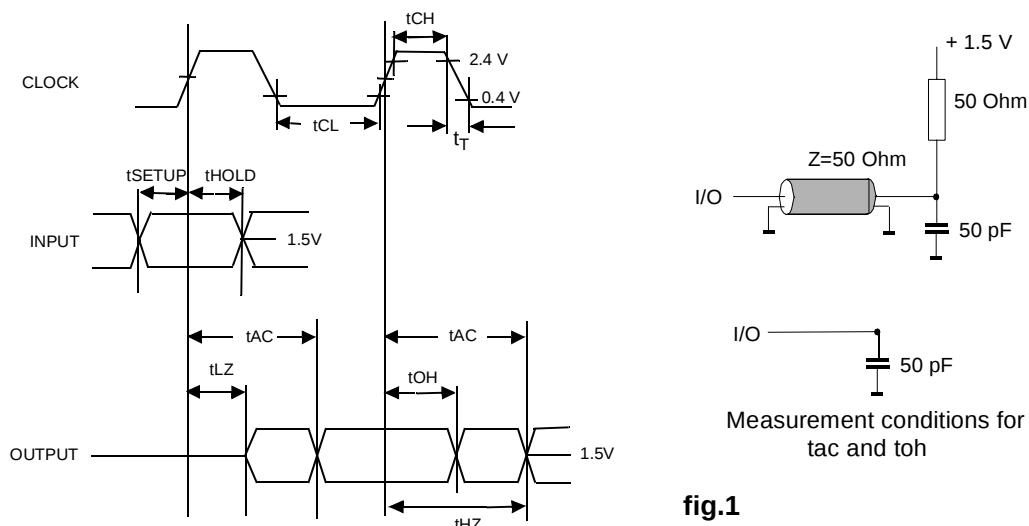

fig.1
2. AC timing tests for LV-TTL versions have $V_{il} = 0.4 \text{ V}$ and $V_{ih} = 2.4 \text{ V}$ with the timing referenced to the 1.5 V crossover point. The transition time is measured between V_{ih} and V_{il} . All AC measurements assume $t_T = 1 \text{ ns}$ with the AC output load circuit shown in fig.1. Specified t_{ac} and t_{oh} parameters are measured with a 50 pF only, without any resistive termination and with a input signal of 1V / ns edge rate between 0.8V and 2.0 V..